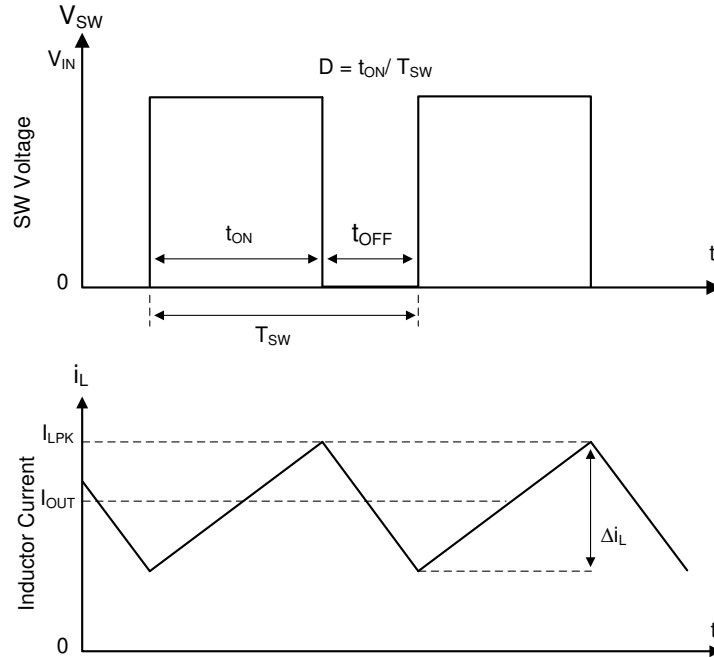

図 7-1. SW Node and Inductor Current Waveforms in Continuous Conduction Mode (CCM)
The following operating description of the LMR544xx refers to セクション 7.2 and to the waveforms in 図 7-1. The LMR544xx is a step-down synchronous buck converter with integrated high-side (HS) and low-side (LS) switches (synchronous rectifier). The LMR544xx supplies a regulated output voltage by turning on the high-side and low-side NMOS switches with controlled duty cycle. During high-side switch ON time, the SW pin voltage swings up to approximately V_{IN} , and the inductor current, i_L , increases with a linear slope of $(V_{IN} - V_{OUT}) / L$. When the high-side switch is turned off by the control logic, the low-side switch is turned on after an anti-shoot-through dead time. Inductor current discharges through the low-side switch with a slope of $-V_{OUT} / L$. The control parameter of a buck converter is defined as Duty Cycle $D = t_{ON} / T_{SW}$, where t_{ON} is the high-side switch ON time and T_{SW} is the switching period. The converter control loop maintains a constant output voltage by adjusting the duty cycle D . In an ideal buck converter, where losses are ignored, D is proportional to the output voltage and inversely proportional to the input voltage: $D = V_{OUT} / V_{IN}$.